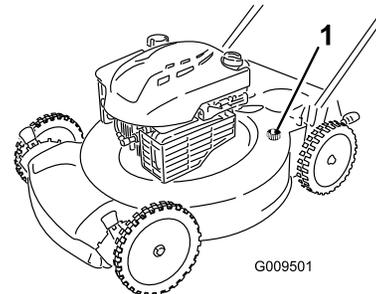

Figure 23
4. Attach a garden hose that is connected to a water supply to the washout port on the mower housing (Figure 23).